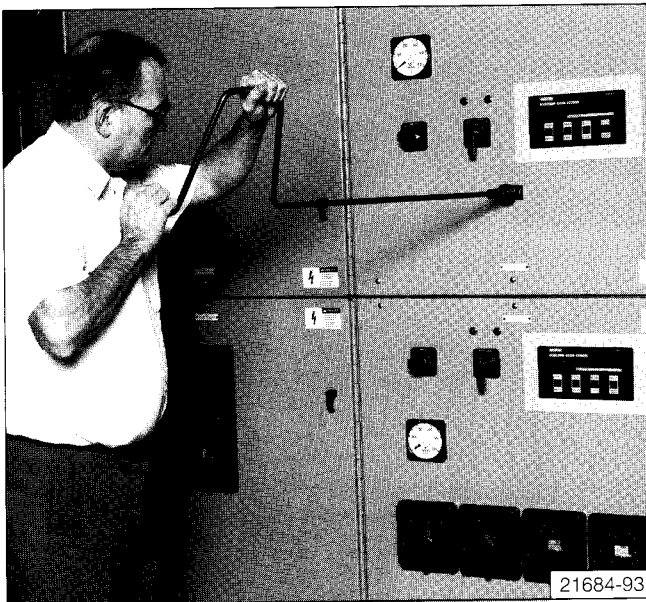

Figure 3: Racking Circuit Breaker in Switchgear.
2. If the circuit breaker is in the Connect position, insert the racking crank on the racking screw on the front of the breaker cell, and push in. This action operates the racking interlock latch. **Figure 3** shows racking of a circuit breaker in the upper cell - the process is similar for a breaker in the lower cell. Rotate the racking crank *counterclockwise* until the breaker is in the Test position. (If the circuit breaker is in the Disconnect position, turn the racking crank *clockwise* to rack the circuit breaker from the Disconnect position to the Test position). If the racking crank is not of the "Captive" type, constant inward pressure is required during racking to maintain engagement with the racking mechanism.